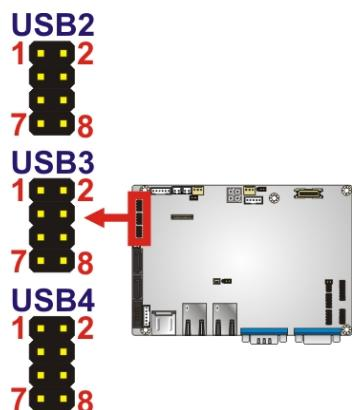

Figure 3-19: USB Connector Location
**CN Location:** See Figure 3-19